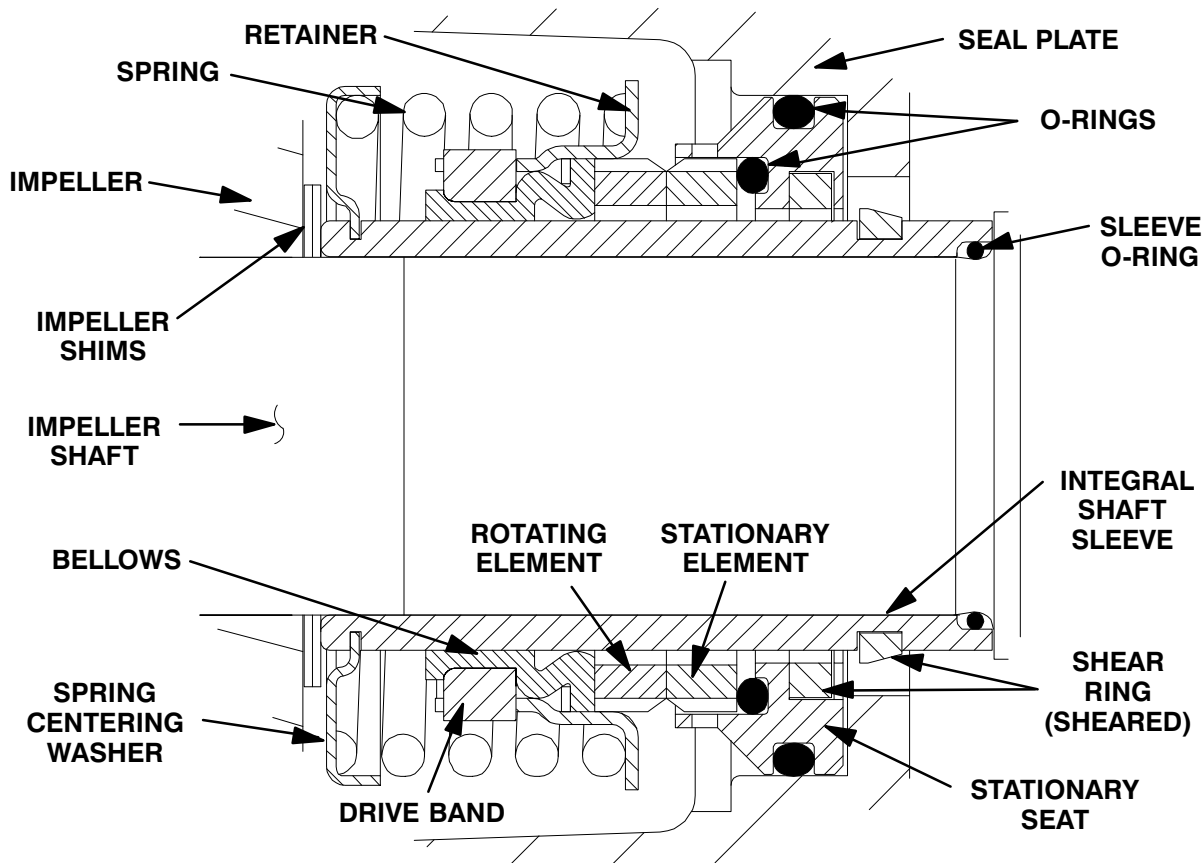

Figure 8. Cartridge Seal Assembly
To ease installation of the seal, lubricate the shaft sleeve O-ring (32) and the external stationary seat O-ring with a very **small** amount of "P-80[®] Emulsion" or water. See Figure 8 for seal part identification.